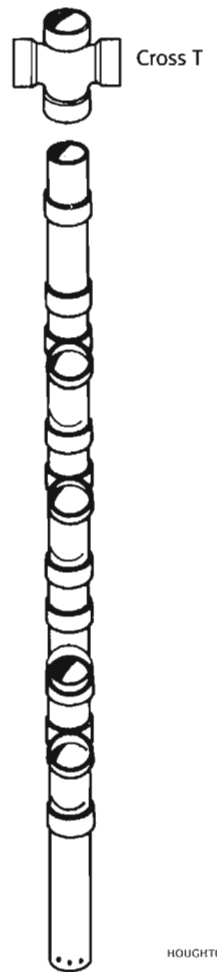

Figure 13. Center leg assembly
e. Attach a cross T section to the top of one leg assembly, orienting its opening 90° to the openings of the other sections (as shown in figure 13). (Note that there are markings at the ends of the sections spaced 45° apart, which aid in orientation). This completes the center leg assembly.